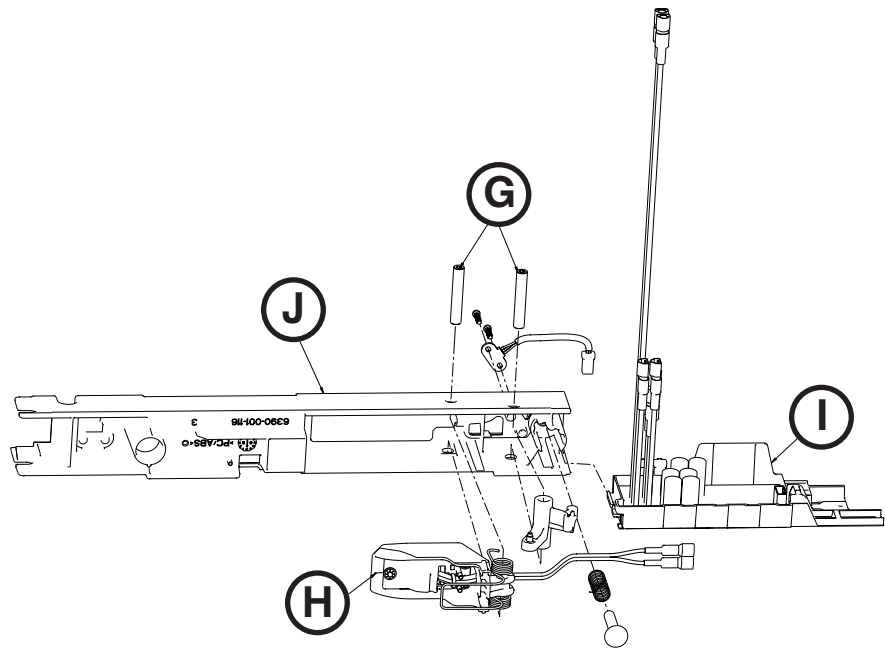

Figure 98
13. Remove the anchor pivot pin (G) that holds the anchor coil assembly (H) to the anchor housing (J) (Figure 98).
14. Unplug the coil wires from the inductive primary board (I) (Figure 98). Discard the anchor coil assembly.